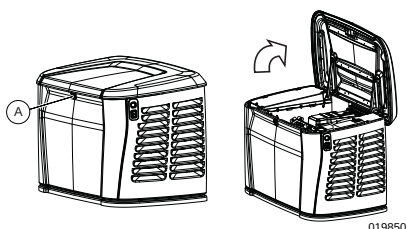

Figure 2-3. Opening the Lid
1. See Figure 2-3. Use keys to open generator lid. One lock (A) secures generator lid. Lock is located behind bezel in the center of front access panel. Insert key vertically. Press down on lid above lock and turn to the left to unlock.